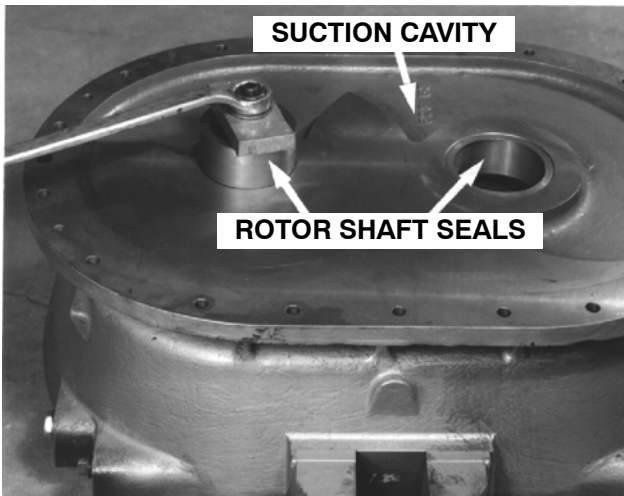

FIGURE 1
1. Oil the O.D. of the rotor shaft seals (18, 19) to prevent seizure and press into each bore of the carrier (5) (FIGURE 1, page 28). **NEVER REUSE SHAFT SEALS.** Refer to "Rotor Shaft Seals," page 16, for an explanation. A simple press utilizing a bolt and two bars, one across the seal and one underneath across the bearing bore, is an effective method for installing the seal. Tightening the nut on the bolt presses the seal into place. Press the seal .010" to .015" below the face of the carrier to prevent the end of the rotor from rubbing the end of the seal. A simple method is to place a .010" to .015" shim on the end of the seal under the press bar which will allow the seal to be pressed the correct distance below the face of the carrier. Handle the seal with care to prevent damage to the babbitt lining.
and the inlet opening matching the cavity side (FIGURE 1), of the carrier. Engage the dowel pins (45) with matching holes in the carrier with care. Tighten the carrier to housing screws (50, 55) evenly so the dowel pins will not be damaged.